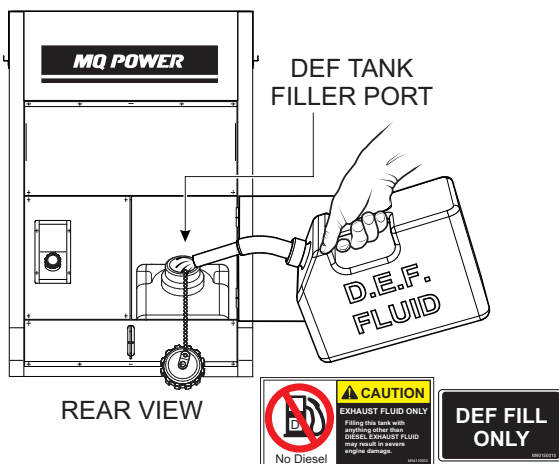

Figure 42. Filling The DEF Tank
- Remove the cap from the DEF tank filler port (Figure 42).